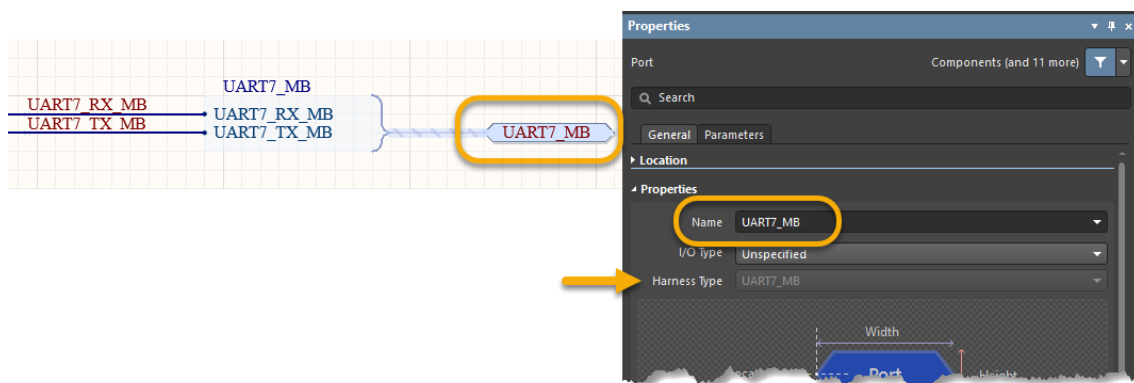

Figure 11. UART7_MB Harness structure (Connector, Entry, Signal and Port)
- h) Now that the Port is placed and attached to a Signal Harness, it will automatically be updated with the graphical information for the Harness and the correct Harness Type Information. Your result should be similar to Figure 11.